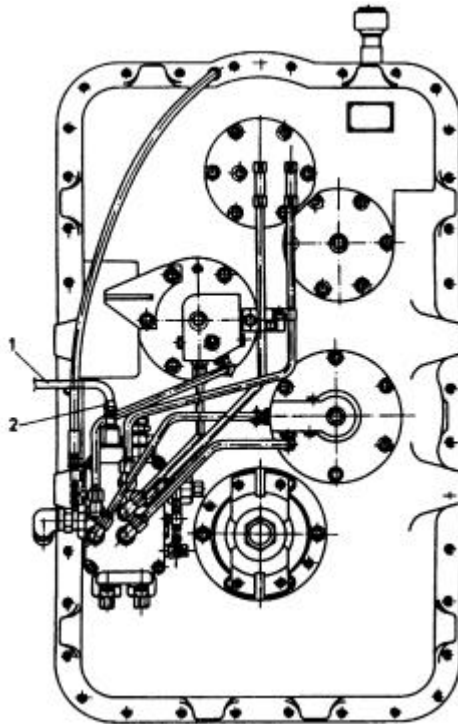

Fig. 5.14. Location of Transmission Disconnecting Valve
3. Loosen hose fitting 2 of hose 1, Fig. 5.14. on the transmission at the transmission disconnecting valve by app. 1 turn.